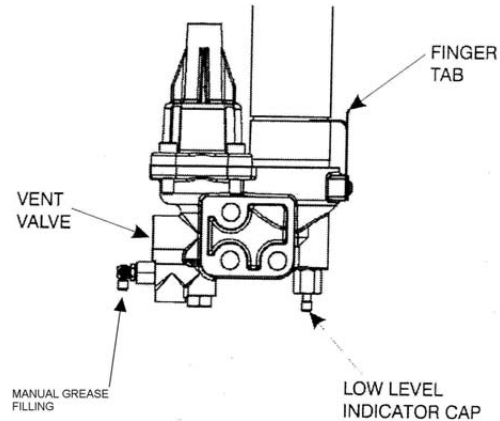

Figure 7-4 Vent Valve
2. Push down on follower handle while pressing the button on Vent Valve to force any air pockets out of pump head. Refer to Figure 7-4.